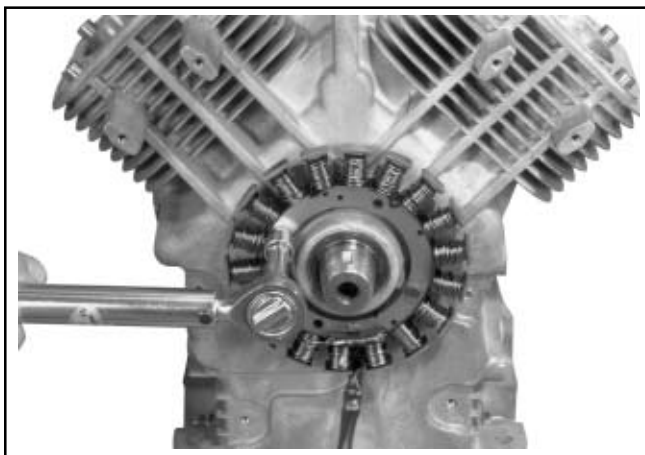

Figure 11-20. Torquing Stator Screws.
3. Install and torque the two hex. flange screws to **6.2 N·m (55 in. lb.)**. See Figure 11-20.